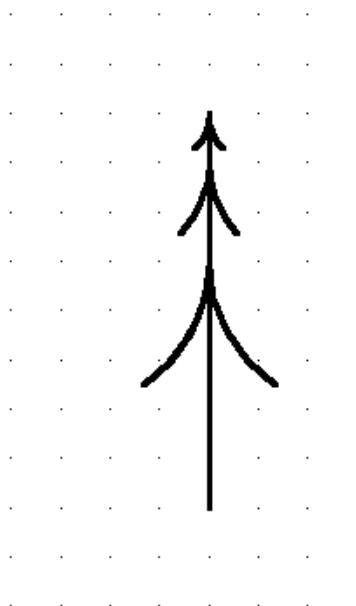

Figure 4-99
1. Select *Settings|Grid / Origin / GIS* and enter “X” and “Y” spacing of **20 (6)** and check the “Display Grid Points” checkbox.
3. Select *Draw|Line|Single* and draw a vertical line of **160ft (48m)** for the trunk. Left click to place the start and drag the line vertically until the status bar d=160 (48) and the line cover 8 grid points then click to place the end.
5. Repeat for the three branches on the right hand side of the tree in mirror image. Your symbol should look like Figure 4-99.